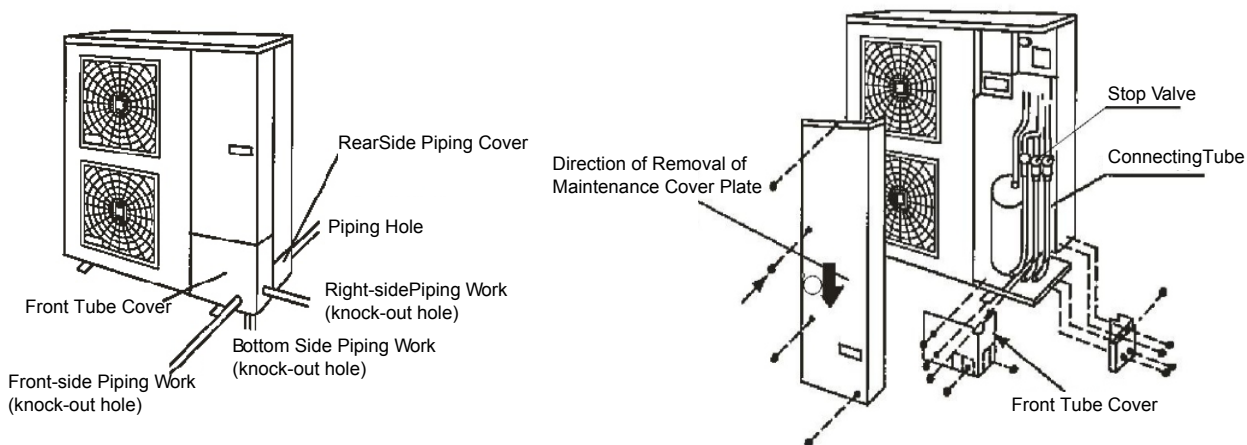

Figure 5.1 Piping Direction
(4) Pipes can be connected from 4 directions as shown Fig. 5.1.